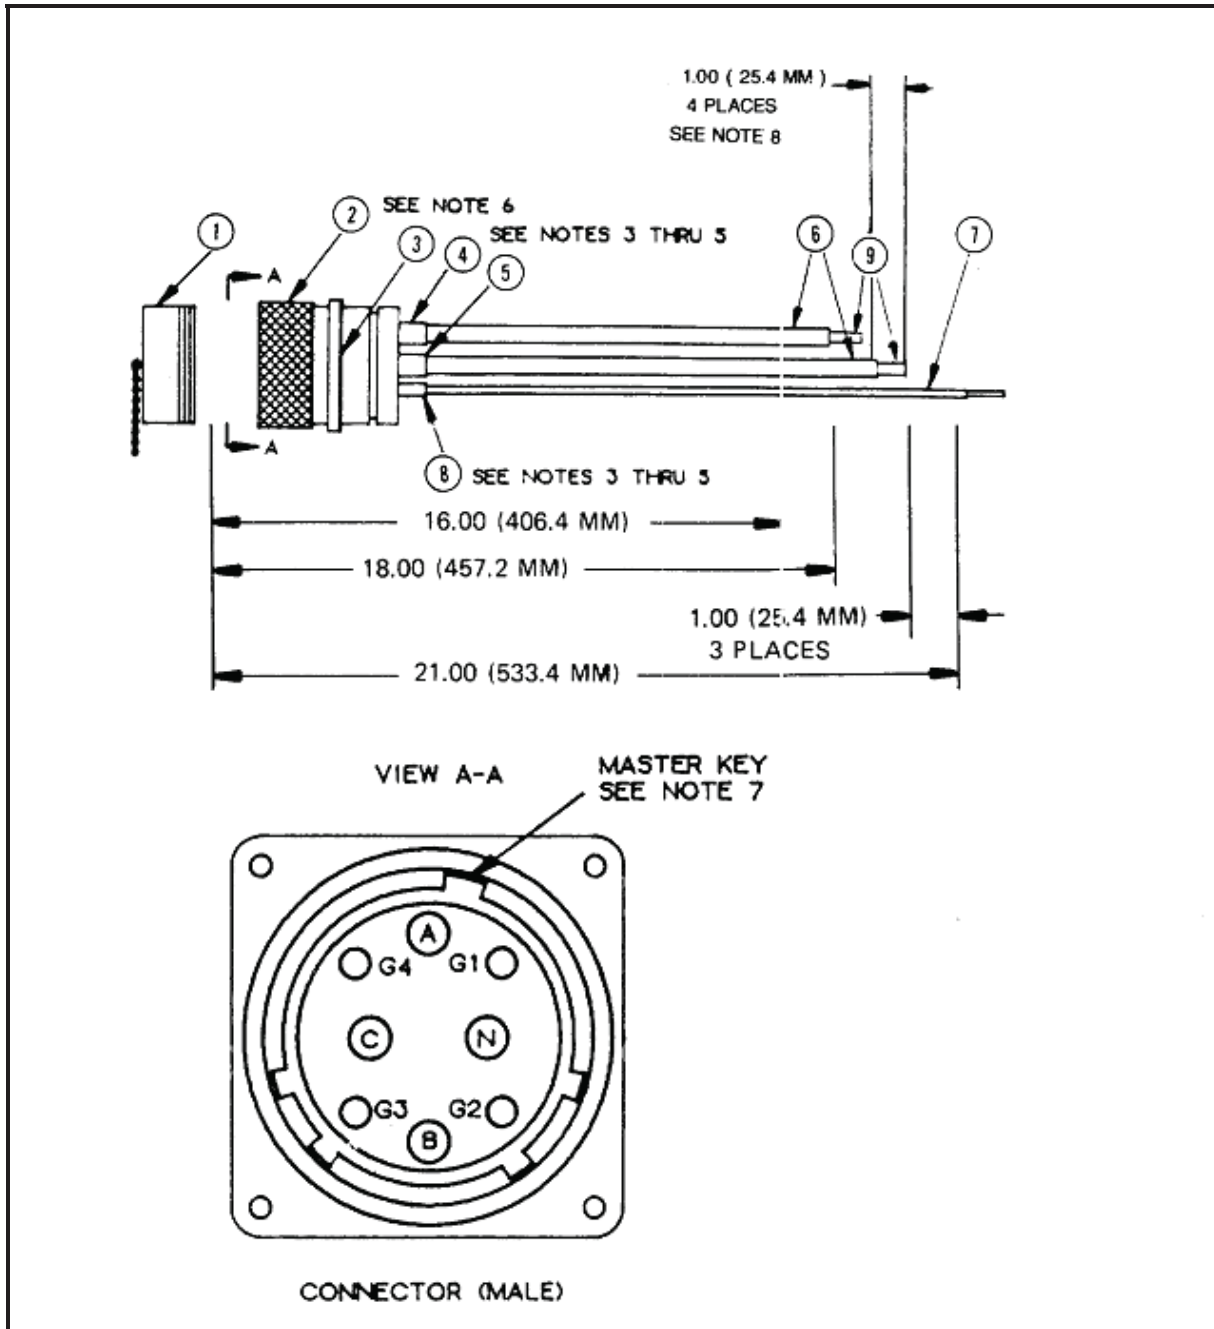

Figure F-26. Feeder Center Input Connector Assembly, M200 A/P (PDISE), 200-Amp (J1)
F-26 (Feeder Center Input Connector Assembly, M200 A/P (PDISE), 200-Amp (J1))**Component Legend for Figure F-26**
- c. Electrical connector (Figure F-26, Item 2) is furnished with the following: